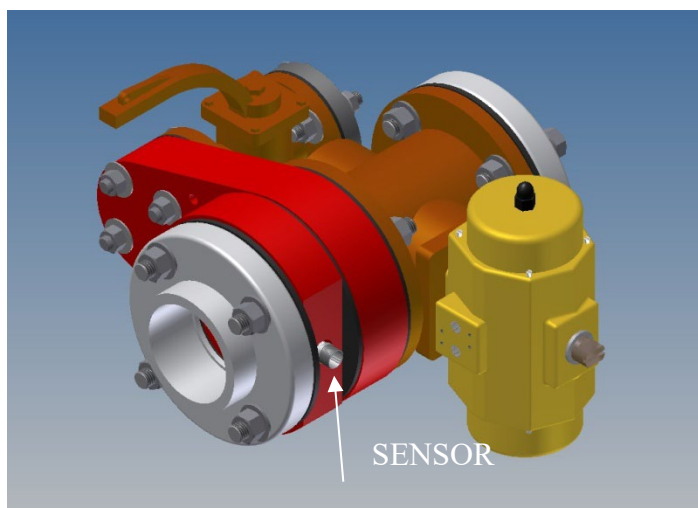

Figure 1
- Figure 1 shows the air valves used to redirect air to the scrubber. The sensor is to be mounted at either 9, 12 or 3 o'clock or anywhere in between as long as it is on the top half of the pipe.